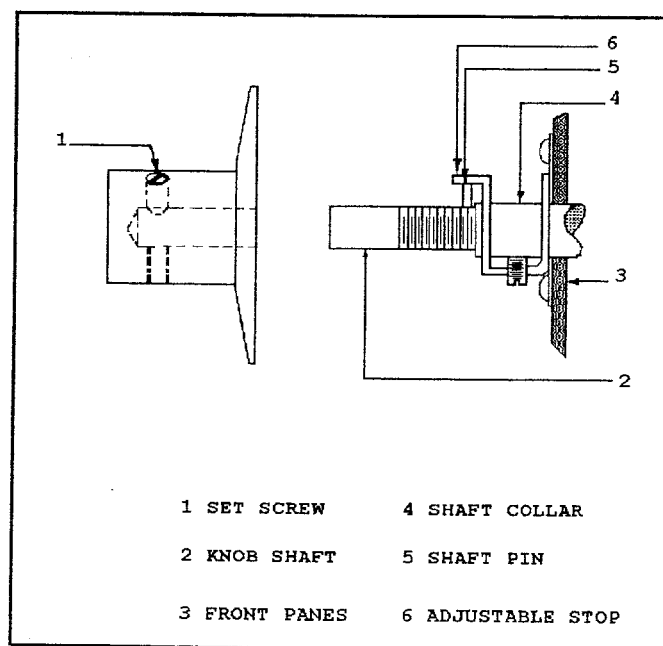

FIGURE 5-1 THERMOSTAT CALIBRATION
1. Remove control thermostat knob by loosening its two set screws (*see figure 5-1*).